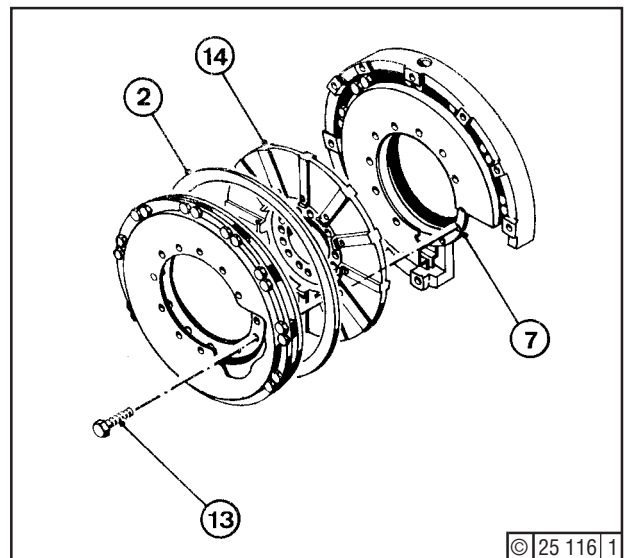

Fig. 5
Insert ring (2) - Fig. 5 - and disc (14), observing markings as per Fig. 1. Bolt up the two damping-disc pairs and disc (14) by means of hex. bolts (13) - inserted with Deutz DW 55 - and c/w threaded ring (7) (Section 3.5, item 59).